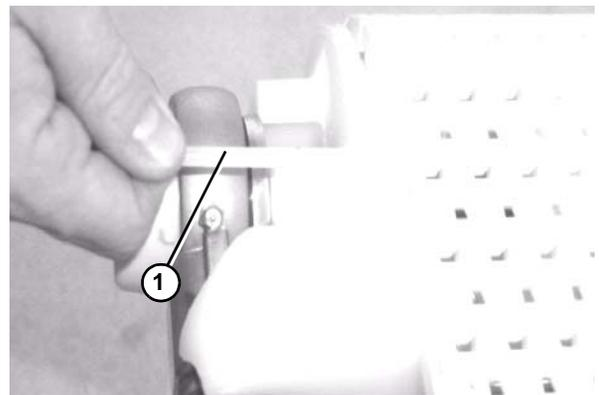

Figure 26
4. Insert the belt rod (Figure 26, item 1).